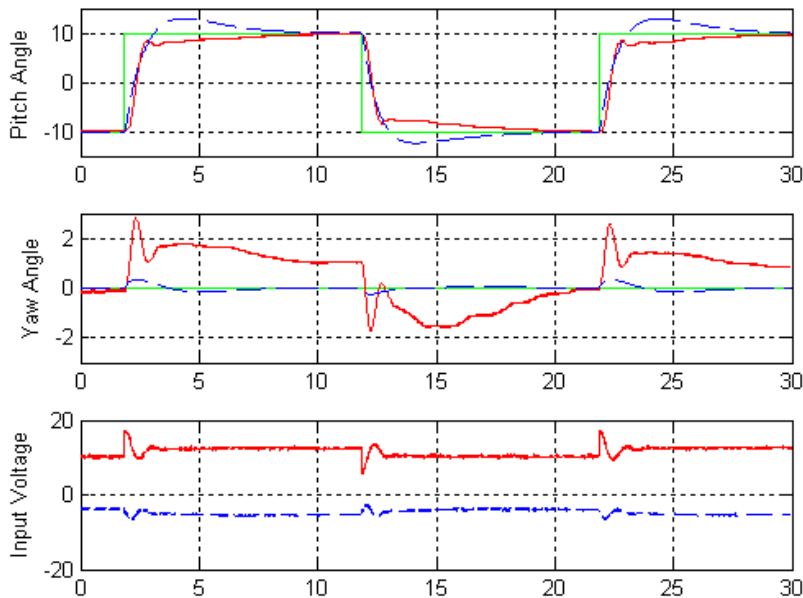

Figure 38: Closed-loop LQR+I response under pitch reference step.
19. Set the *Amplitude: Pitch (deg)* to 10 and the *Pitch: Constant (deg)* to 0 to observe the LQR+I response under a step pitch reference. The result should be similar to the response shown in Figure 38. Note that the steady-state error is removed.